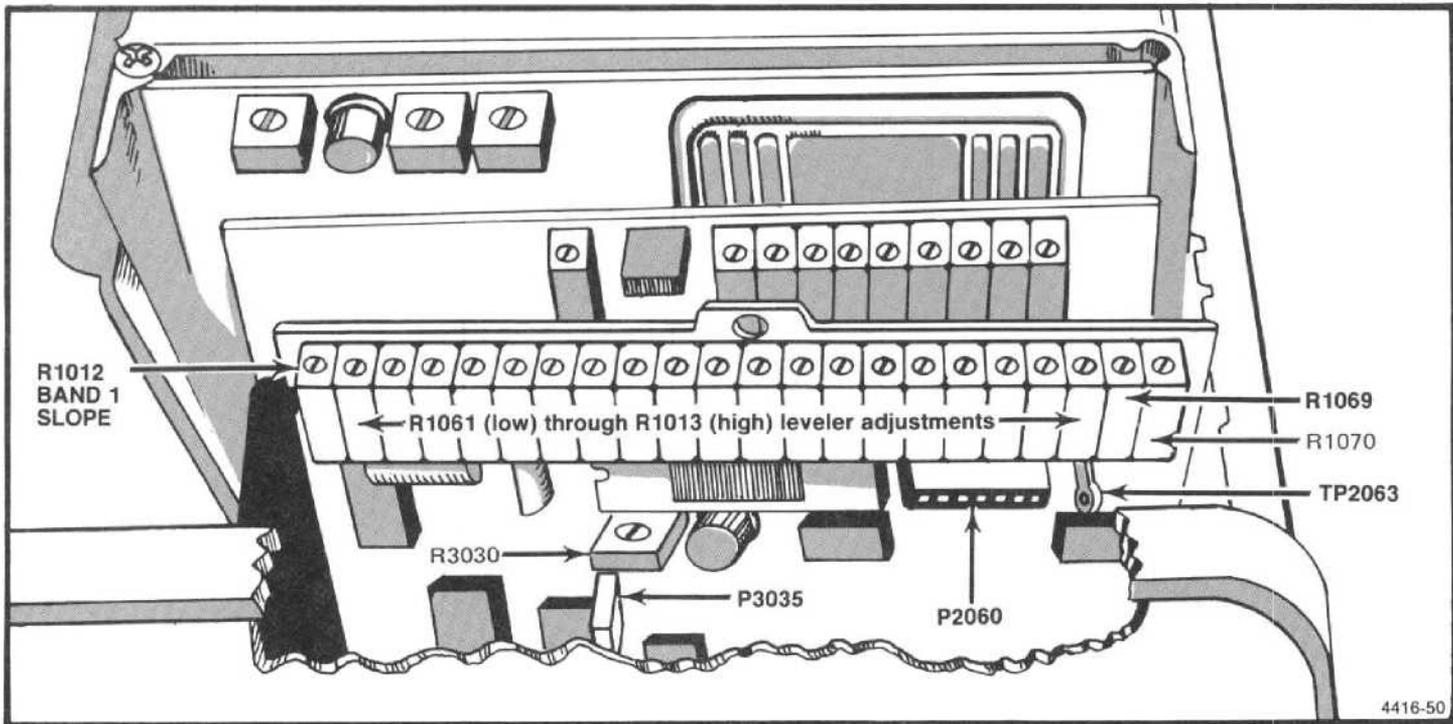

Figure 5-15. Location of P3035 on the Video Processor board.
a. Before calibrating the Log Amplifier, set the correction factors to zero. Press <SHIFT> 10 dB/DIV and select "SET CORRECTION FACTORS TO ZERO". Remove Leveler Disable plug P3035 on the Video Processor board (Figure 5-15).